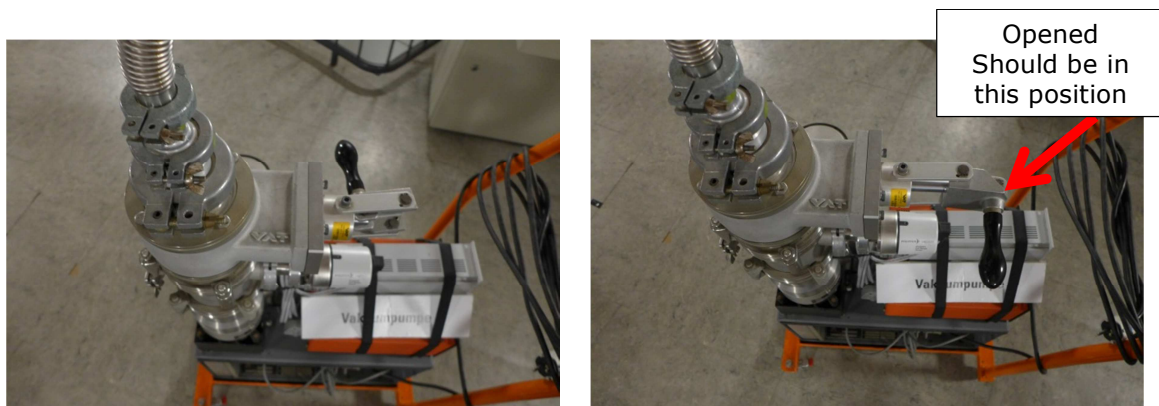

Figure 5-6: **Gate valve** at the pump set: left, valve closed; right, valve open.
- d) Open the large **gate valve** on top of the pump set (Figure 5-6).